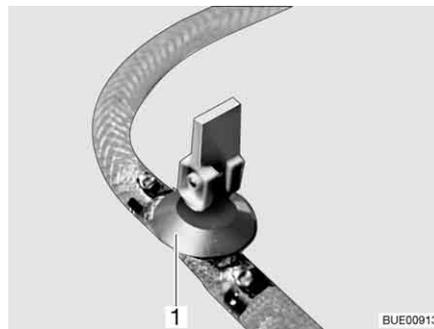
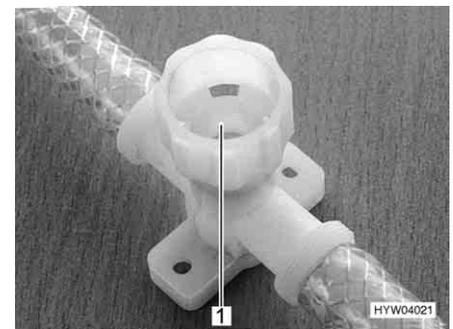

Fig. 241 Drain cock (with rocking lever)
Fig. 242 Drain cock (with twist cap)
- Open all drain cocks. To do this, position the drain cock's rocking lever (Fig. 241,1) vertically or turn the drain cock's cap (Fig. 242,1) in an anti-clockwise direction.